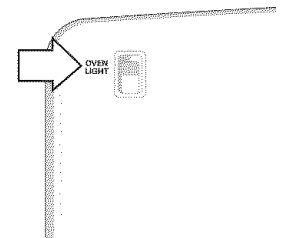

Fig. 3
The interior oven light will automatically turn ON when the oven door is opened. Press the Oven Light Switch located on the upper left control panel to turn the interior oven light ON and OFF whenever the oven door is closed (Fig. 3).
3. Firmly grasp both sides of oven door along the door sides (Do not use the oven door handle - See Fig. 3).
1. Firmly grasp both sides of oven door along the door sides (Do not use the oven door handle - See Fig. 3).